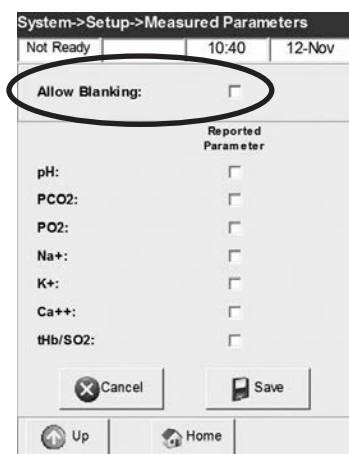

Fig. 3-11 Select Allow Blanking
3. Press **<Allow Blanking>** to allow parameter blanking (Fig. 3-11).